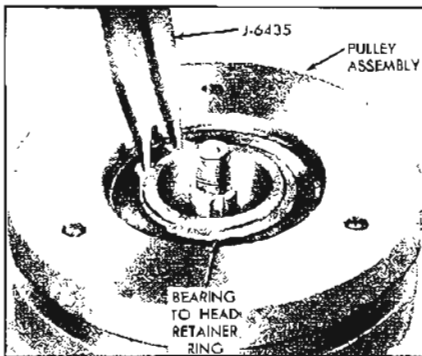

Figure 11-62—Removing or Installing Bearing to Head Retainer Ring
2. Using No. 26 Truarc Pliers (J-6435) take out bearing to head retainer ring (see Figure 11-62).
11. Lock pulley assembly in position with bearing to head retainer ring (flat side of retainer ring downward) using No. 26 Truarc Pliers (J-6435). See Figure 11-62.